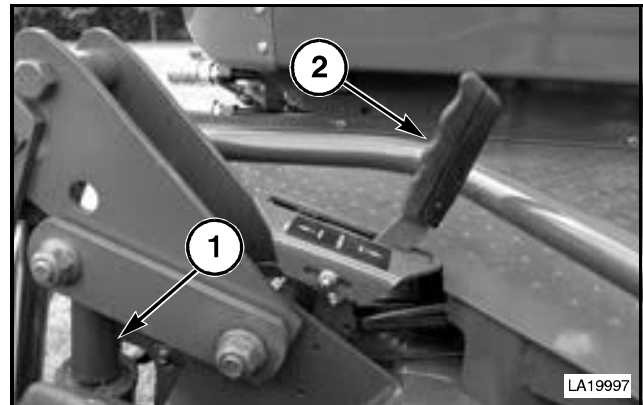

FIG. 27
FIG. 27: To engage the cylinder stops (1), raise the header completely. Move the lever (2) toward the cab and then pull back toward the rear of the machine to engage the cylinder stops. Make sure the cylinder stops are completely engaged in both header lift cylinders.